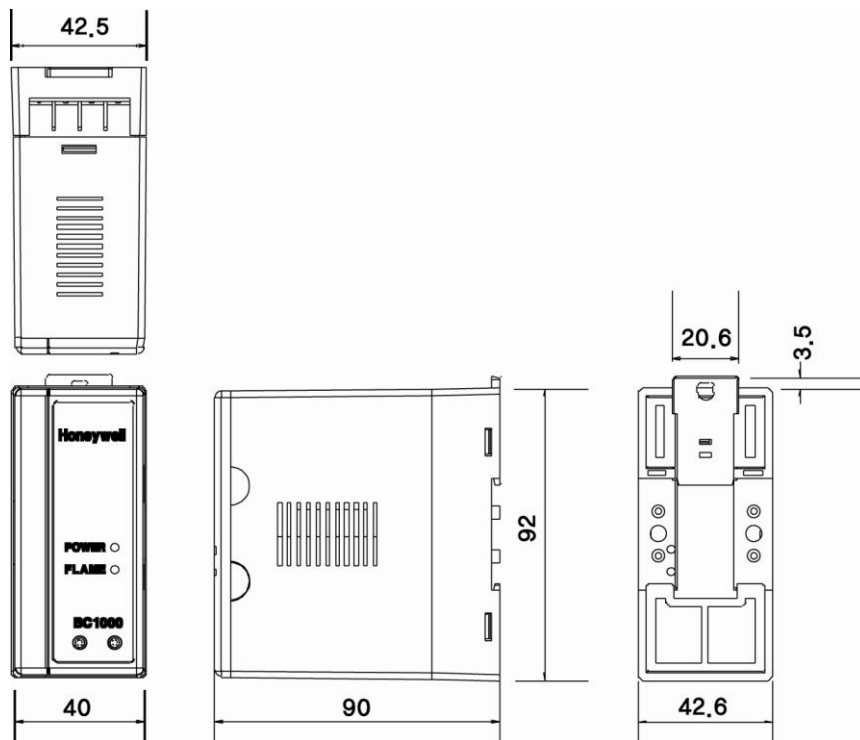
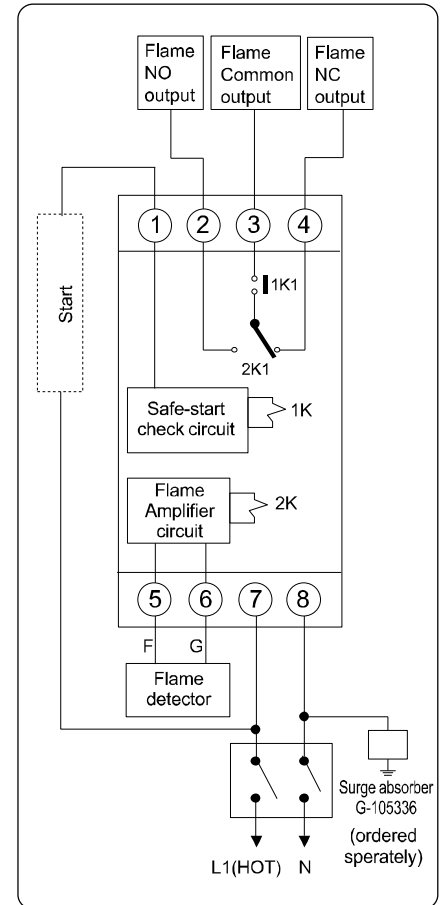

Fig. 2: External Dimensions (in mm)
Fig. 5: Example of wiring to external devices
- 1) Fig. 5 is an example of typical wiring diagrams. Refer Fig. 2 for terminal location
### a. Manual Ignition System with Intermittent Pilot (refer to Fig. 5 ①Manual Ignition)
1. If flame is detected before safe-start check is completed, operation is put on hold until the flame signal disappears. (① in upper table)
2. If flame is lost during RUN, the flame relays are de-energized. (②③ in upper table)
3. Pilot flame establishing period(PFEP) should comply with the application standards. (④ in upper table)
### b. Flame Monitoring System (normal operation, refer to Fig. 5 ②Flame Monitoring)